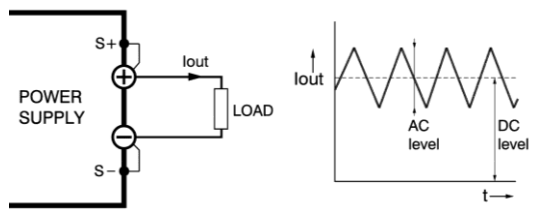

Figure 7.12: Pulsating load current.
- To avoid overheating the output capacitors, the AC component of the DC load current should be limited, see Figure 7.12.